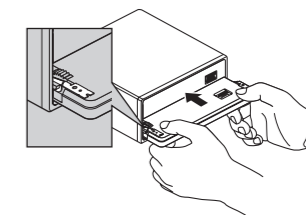

Fig. 16
2. Replace the front panel to the unit. (Fig. 16)